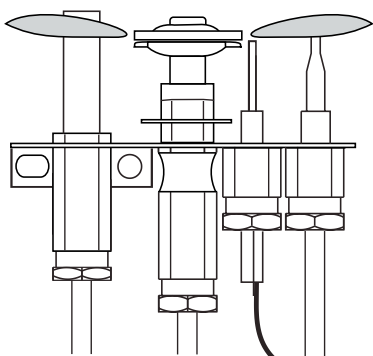

Figure 34. Pilot Burner.
1. Locate Pilot Adjustment Screw. (See figure 34.)
2. Adjust pilot screw to provide properly sized flame as shown in figure 34).